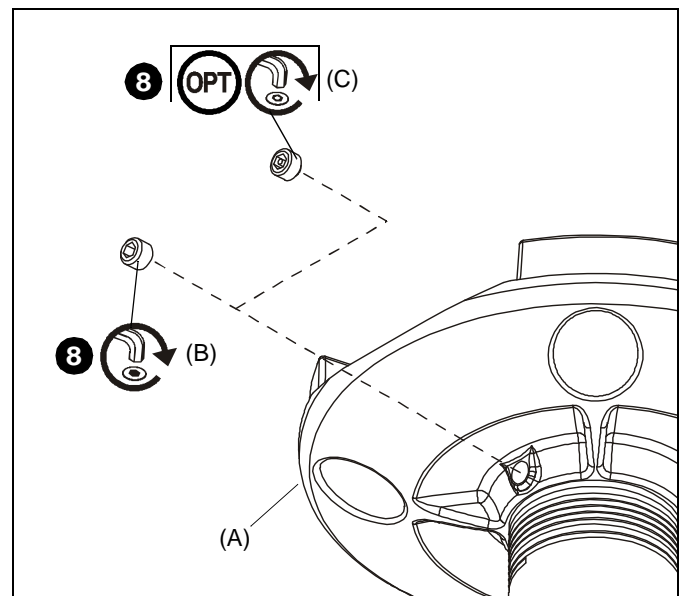

Figure 4
7. Using pipe wrench, install 1-1/2" NPT or NPSM following ANSI/ASME B1.20.1 (Schedule 40, 0.154" minimum thickness aluminum - ASTM B221) threaded extension column (not included) into threaded collar of ceiling plate (A) until tight, with a minimum of four threads engaged.
8. Using hex key (D), secure extension column by *one* of the following methods (See Figure 4):
- Install one 5/16" x 1/4" set screw (B) into threaded hole, tightening firmly against column.
- **OPTIONAL:** Install one 5/16" x 1/4" security set screw (C) into threaded hole, tightening firmly against column.